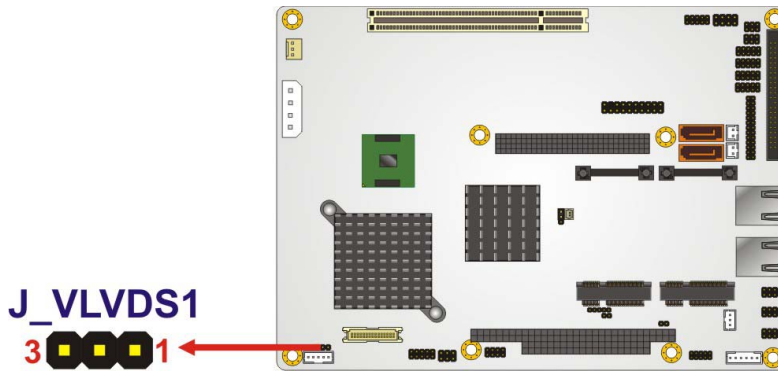

Figure 5-9: LVDS Voltage Selection Jumper Pinout Locations
- Jumper Location:** See **Figure 5-9**
The LVDS Voltage Selection jumper location is shown in **Figure 5-9**.